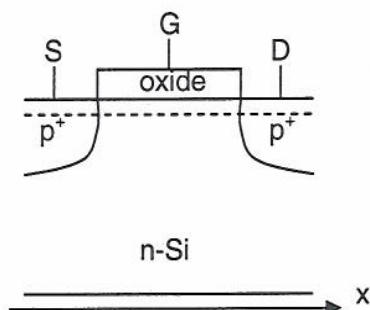

Figure 2.1: A Si MOSFET on an n-type substrate. (The dashed line relates to part c only)
- a) Define the type of the MOSFET of Figure 2.1 (enhancement-, depletion-mode, n- or pMOS). [4]
- b) Is the threshold voltage V_{th} of the MOSFET in Figure 2.1 $>$, $<$ or $=$ to 0? Explain your answer briefly. [4]
- c) Plot the energy band diagram (E_c , E_v , E_F , E_g) from source S to drain D through the channel along the dashed line for the MOSFET of Figure 2.1 when: